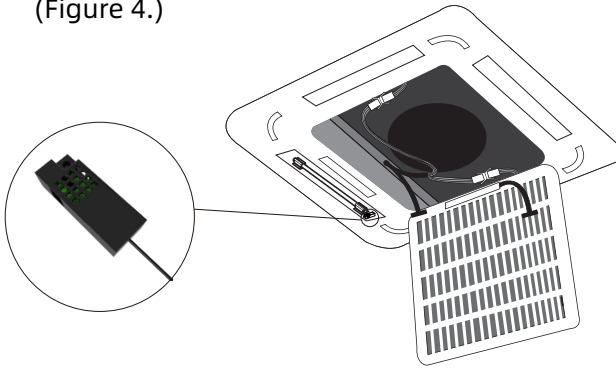

Figure 4.
- 4 Stick the airflow sensor on the air supply outlet with 3M tape. (Figure 4.)